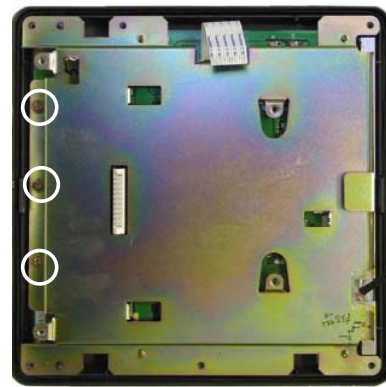

Fig.4-4
4. Loosen three screws ringed in Fig.4-4.